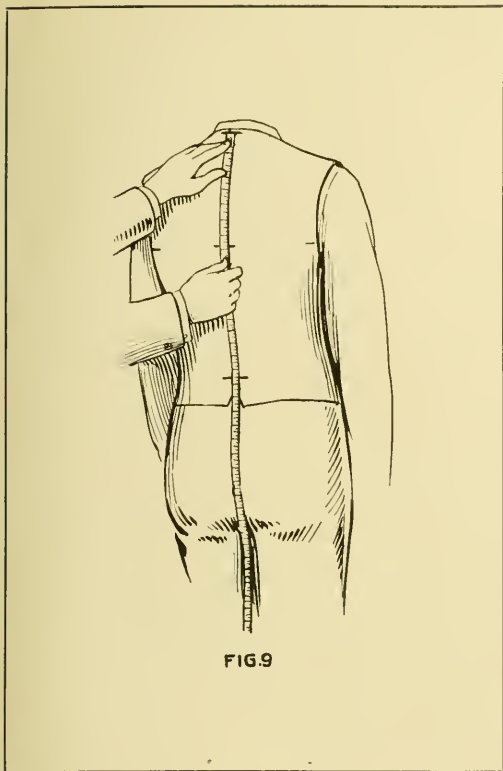

FIG.9
14. **The Length Measure.**—Place the end of the tape-line at the neck point mark, and measure down to depth of scye, or armhole mark, 9 inches; continue to waist line,  $16\frac{3}{4}$  inches, and to full length desired. (See Fig. 9.)